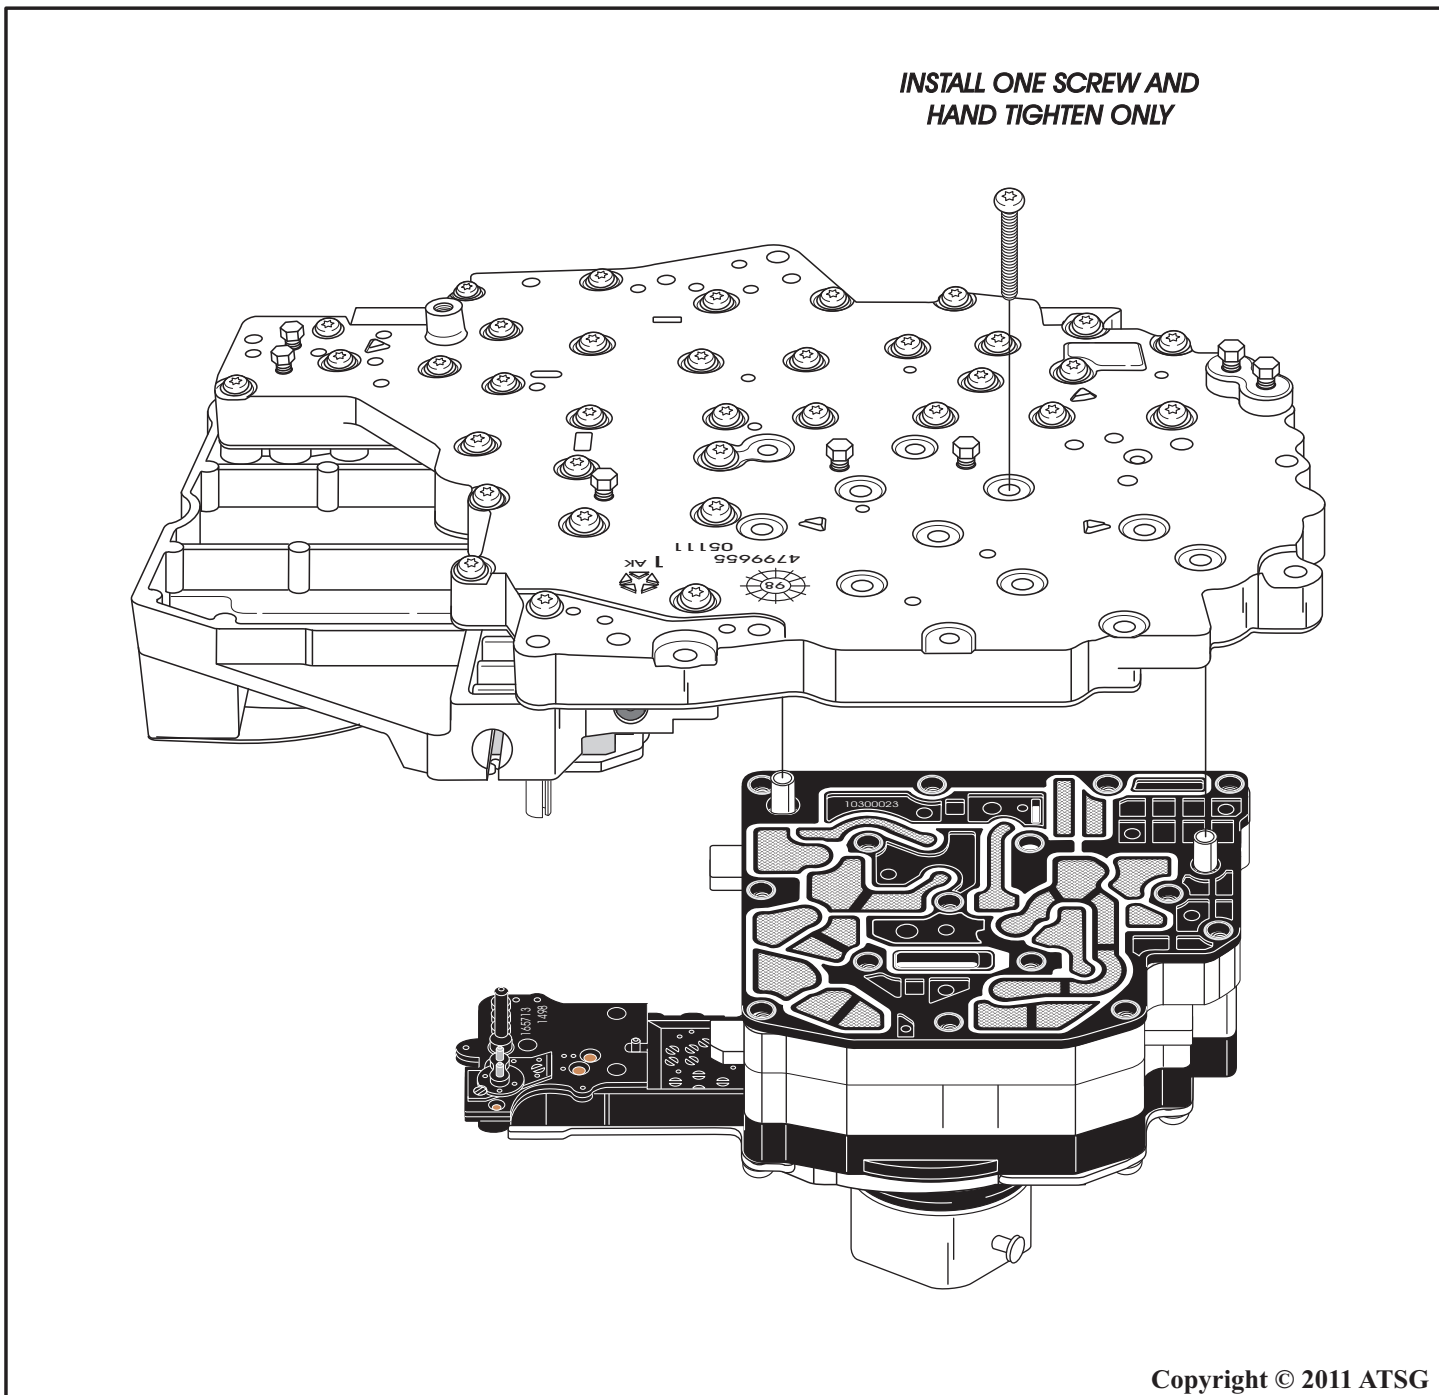

Figure 134
25. Install the TRS/Solenoid Pack assembly to the transfer plate, as shown in Figure 134.
26. Install one screw and hand tighten only, as shown in Figure 134.